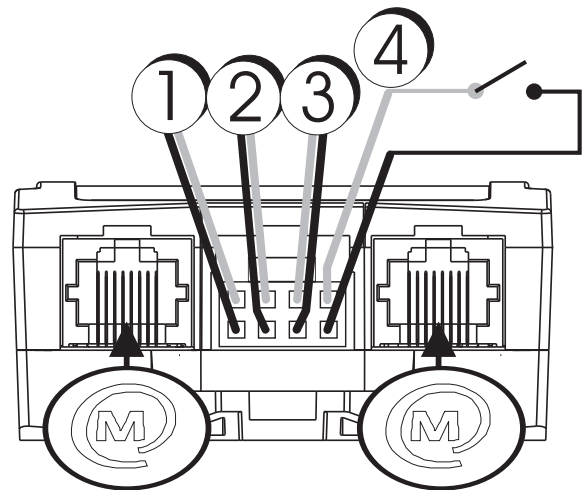

Figure 5: Connections
2. Connect the simple electrical switches to the cables. See figure 5: The four switch positions are shown.